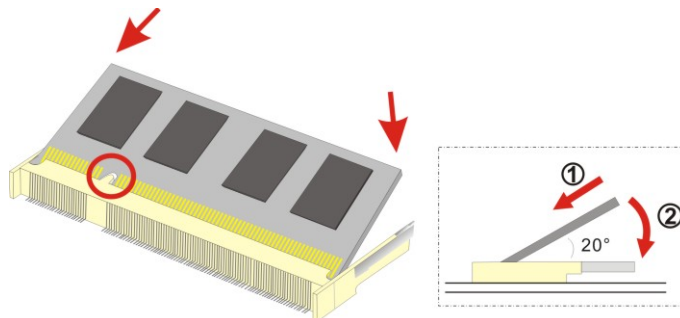

Figure 5-3: SO-DIMM Installation
Step 3: Remove the SO-DIMM by releasing the arms on the SO-DIMM socket. Align the new SO-DIMM with the socket. The SO-DIMM must be oriented in such a way that the notch in the middle of the SO-DIMM must be aligned with the plastic bridge in the socket (**Figure 5-3**).
Step 4: Insert the SO-DIMM. Push the SO-DIMM chip into the socket at an angle (**Figure 5-3**).